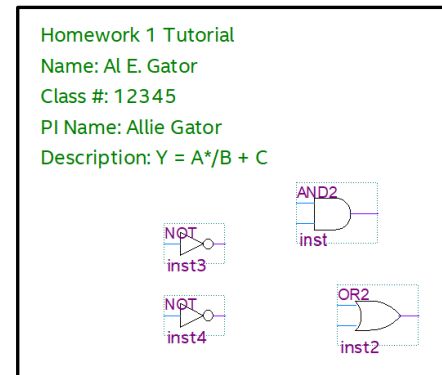

Figure 2: BDF with logic symbols
- Rearrange your gate symbols in approximately the placement you would like for the logic diagram you are trying to construct. You can move a component by selecting it with your mouse, and either holding down the left mouse button and moving it to another location on your bdf or using your up/down/left/right arrow keys. The window should look similar to Figure 2.